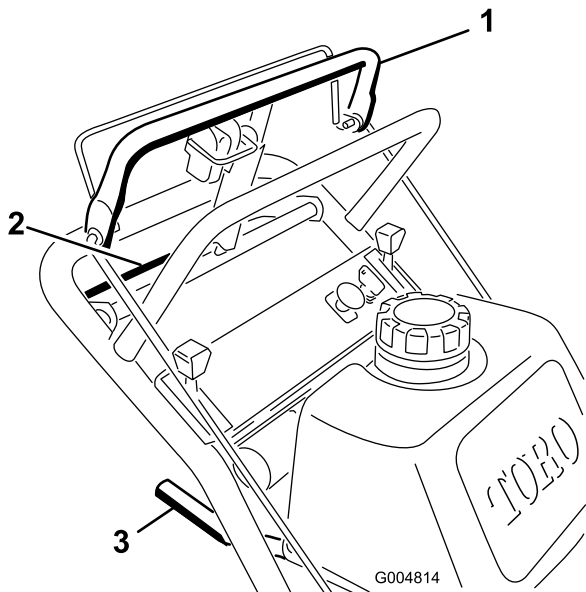

Figure 10
- To go forward, move the shift lever to a forward gear (Figure 10).
- Slowly press on the upper control bar to move forward (Figure 10).
To go straight, apply equal pressure to both ends of the upper control bar (Figure 10).
To turn, release pressure on the upper control bar side in the direction you want to turn (Figure 10).
3. Slowly squeeze the lower control bar and the lower handle together to move rearward (Figure 10).
7. At the same time engage the lower control bar and lift up on the lower handle to drive the machine over the curb (Figure 10 and Figure 11).
4. At the same time, engage lower control bar and lift up on the lower handle (Figure 10 and Figure 11).